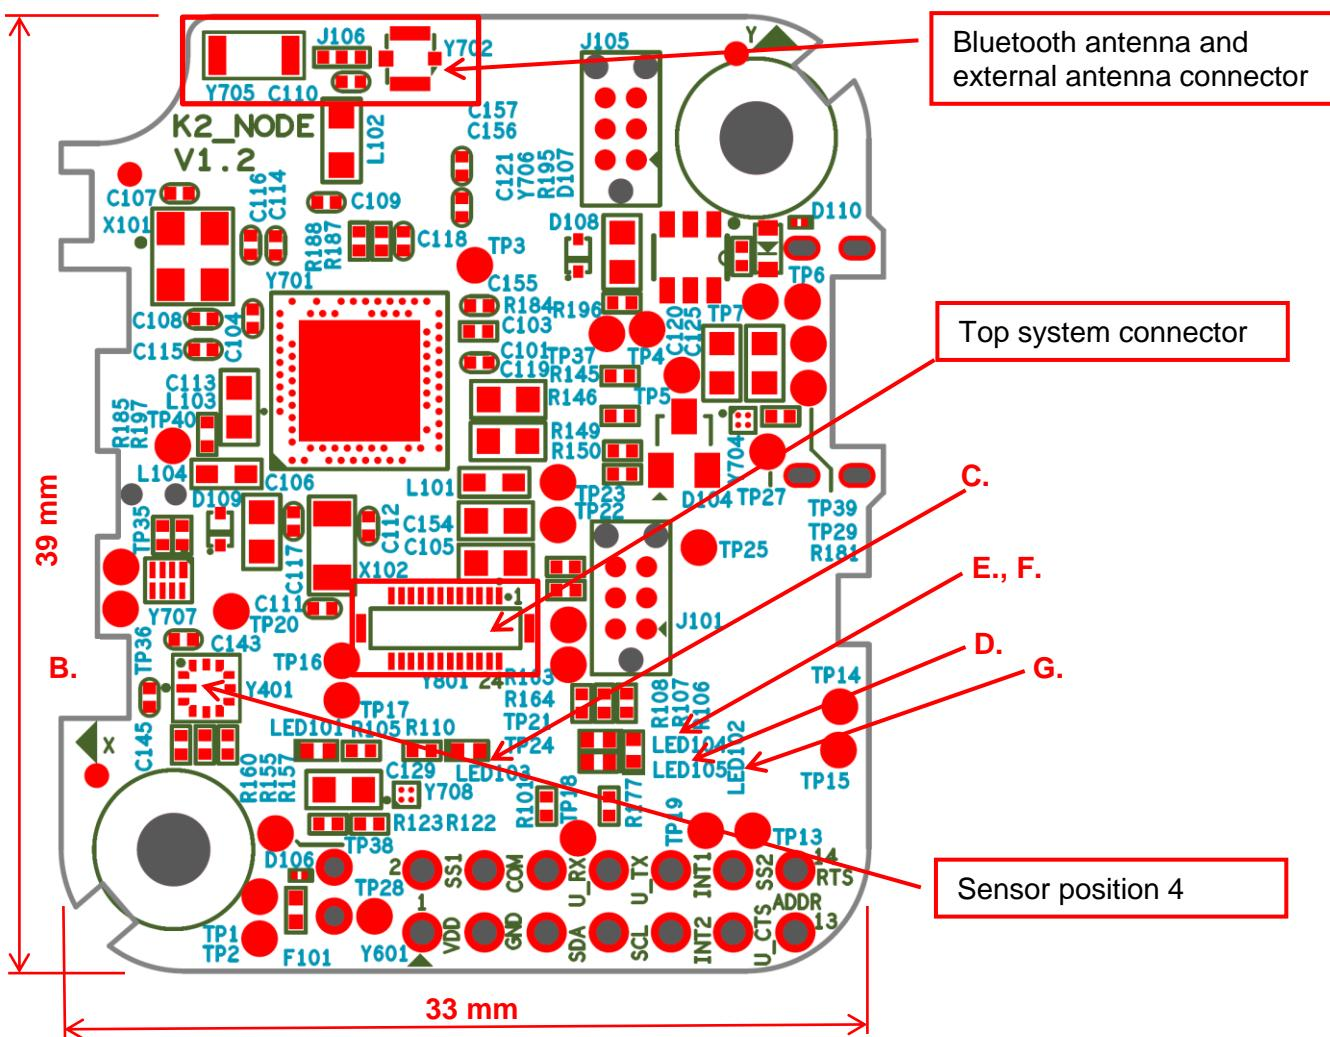
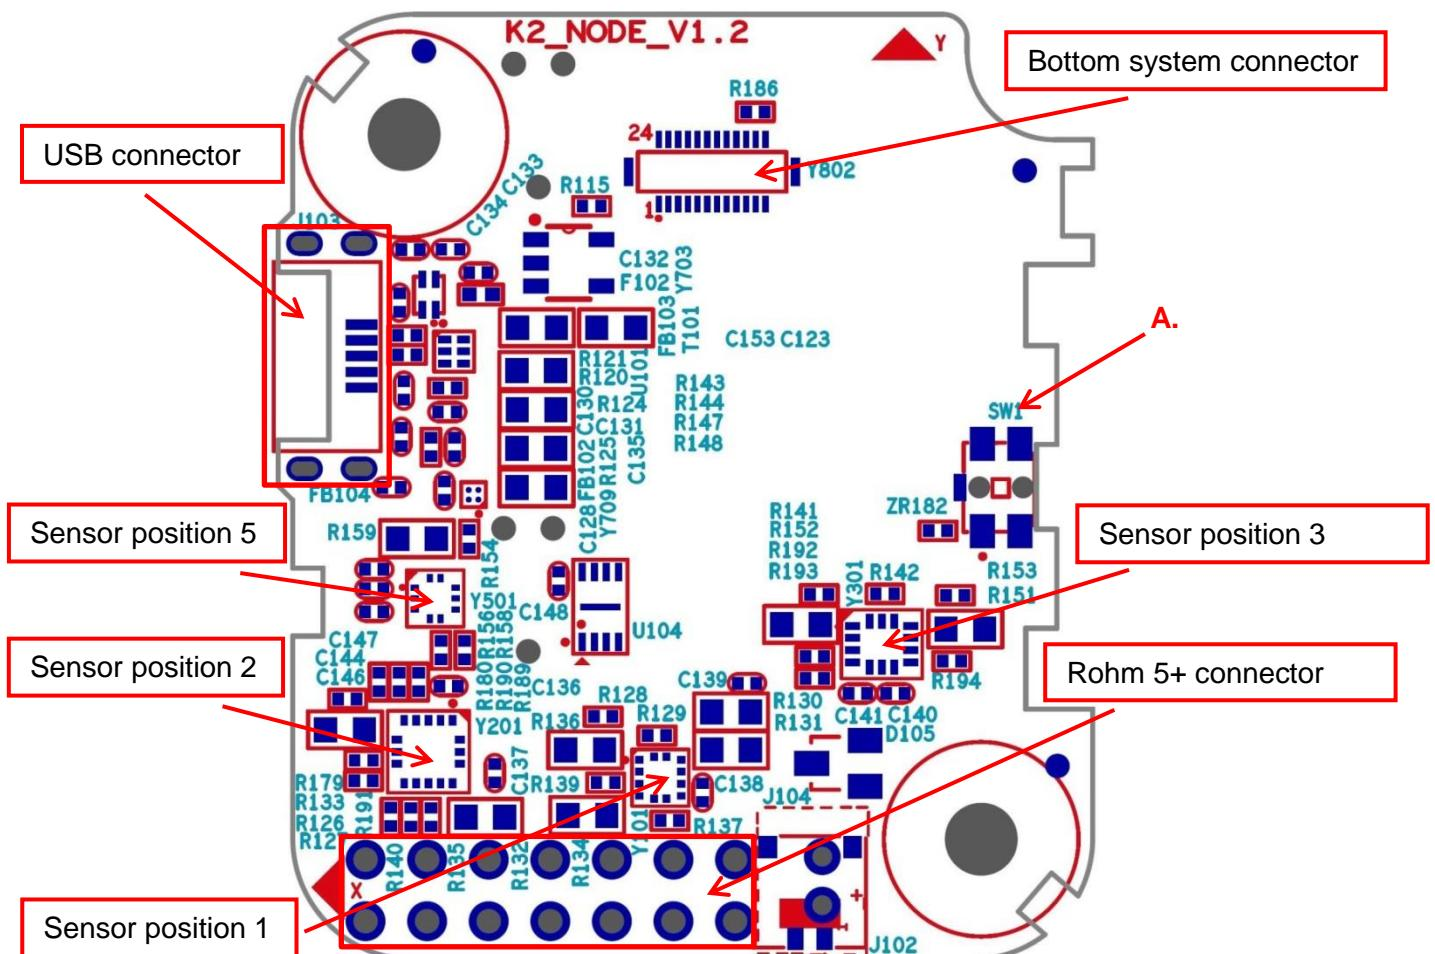

Figure 5: *RoKiX Sensor Node* top component placement
Figure 6: RoKiX Sensor Node bottom component placement
**NOTE:** Initially with the *RoKiX Sensor Node*, the Bluetooth signal is connected to the internal chip antenna (Figure 5). However, if the BLE connector is used for external antenna connection, please follow these instructions:
The main parts of layout and component placement are as follows (Figure 3, Figure 5 and Figure 6):
Remarks on the positioning of the onboard sensors (see Figure 5 and Figure 6):